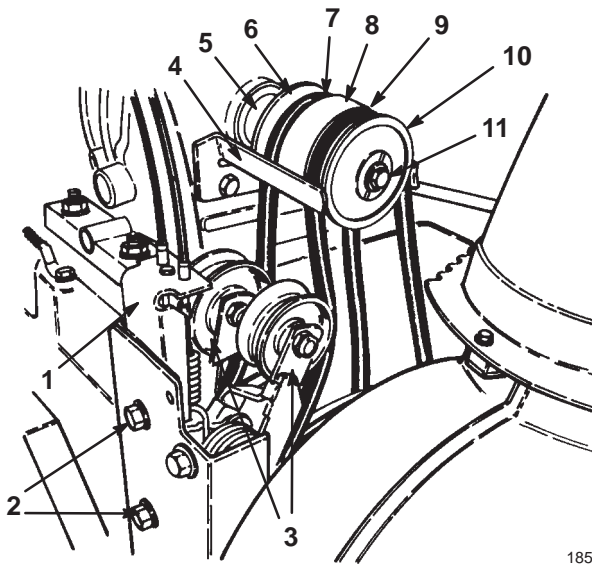

Figure 31
If the auger/impeller drive belt or the traction drive belt (Fig. 31) becomes worn, oil-soaked, or otherwise damaged, replace the belt.
5. Remove the 2 flange bolts that secure the idler pulley assembly to the engine frame and remove the idler pulley assembly (Fig. 31).
6. Remove the bolt and the lock washer that secure the half sheave to the front of the pulley assembly (Fig. 31).
Note: You can remove the belt guide and use a slip-joint pliers or a pipe wrench on the pulley extension (Fig. 31) to hold the crankshaft steady while you perform this step.
7. Slide the half sheave and auger/impeller drive belt off the crankshaft and remove the belt (Fig. 31).
9. If you need to replace the traction drive belt, slide the middle pulley section and the belt off the crankshaft, and remove the belt from the pulley (Fig. 31).
11. Install the traction drive belt around the lower traction pulley and the back sheave, then slide the middle pulley section onto the crankshaft (Fig. 31).
13. Slide the front sheave onto the crankshaft (Fig. 31).
Note: You can use a slip-joint pliers or a pipe wrench on the pulley extension (Fig. 31) to hold the crankshaft steady while you perform this step.
16. Install the idler pulley assembly on the engine frame and secure it with the 2 flange-head bolts (Fig. 31).